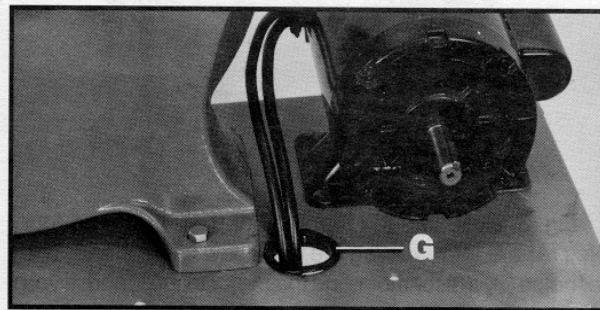

Fig. 6
Place grommet (G) in large hole in top shelf as shown in Fig. 6. Then insert switch cord and power cord through hole as shown in Fig. 6.